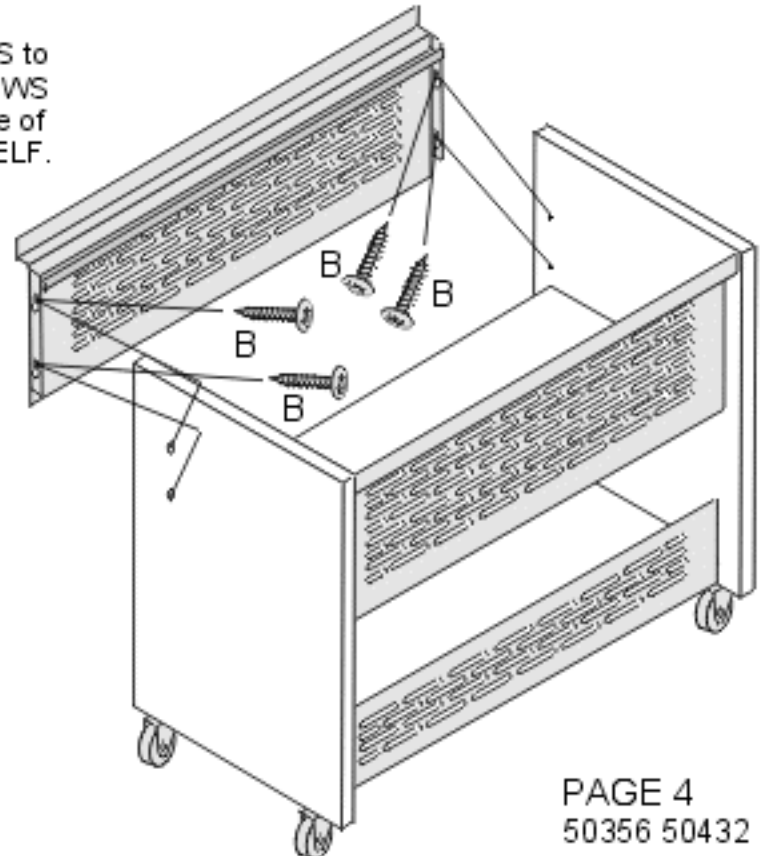

FIG. 5
Align and attach (2) PERFORATED STEEL FILE SIDES to END PANELS using (8) #8 x 5/8" TRUSS HEAD SCREWS (B) as shown FIG.5. For proper installation bottom edge of FILE SIDES should rest on top surface of MIDDLE SHELF.